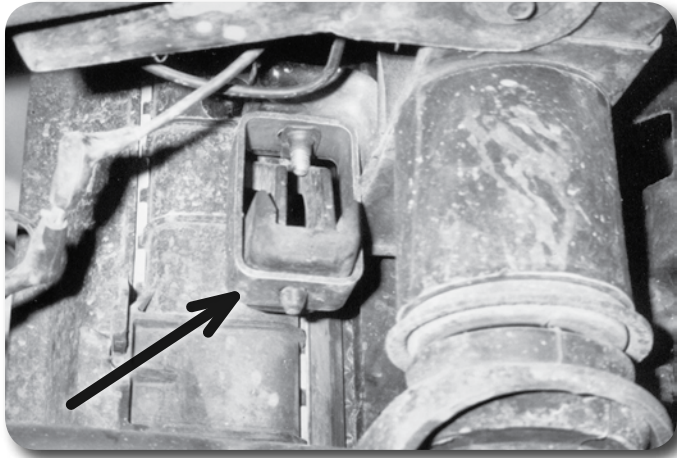

Figure 16
44. Remove the rubber mounting pads from the lower radiator mounts and install them in the small hole of new lower relocating brackets. Install the provided 5/16" u-nuts in the opposite end of the bracket with flat side facing out. Bracket is shown installed in **Figure 16**
48. Mount the relocations brackets **Figure 16** to the stock lower mounting brackets using two 5/16" x 1" bolts and 5/16" USS washers into the u-nuts installed on the relocation bracket. Do not tighten at this time.